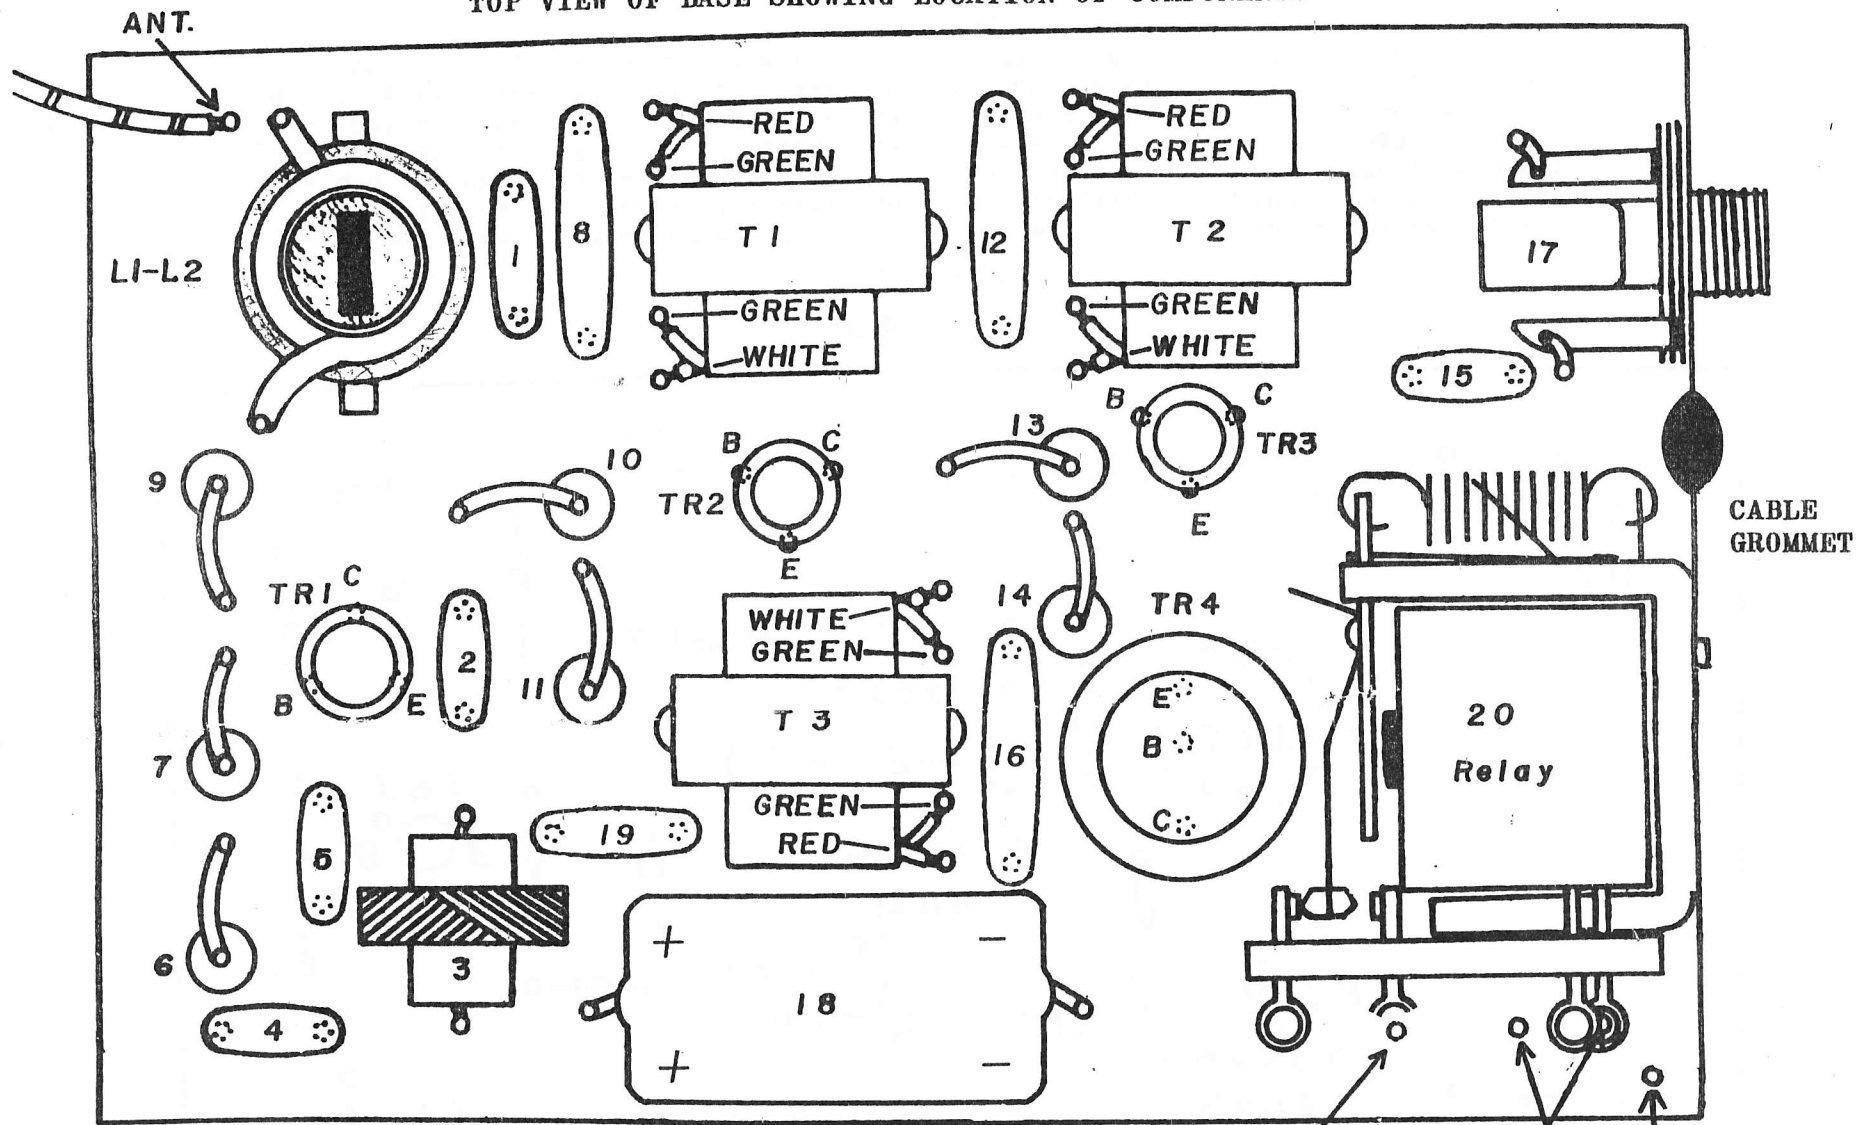

Fig. 2
Solder all the resistors and condensers into place on the base. The resistors are mounted on end. One lead is placed into the hole over which the resistor is located and the other lead is bent over and down to fit into the other connecting hole. Be sure to observe correct polarity when soldering the electrolytic into place. Connect the phone jack (17) to the base with about $\frac{1}{2}$ inch flexible leads. The relay (20) is mounted on its side as shown in Figure 2. Connect the red flexible wire to B+ hole and the black wire to B- hole. Connect the two foot length of white flexible wire to antenna hole on the base.
Continually changing the biasing resistors for temperature tests is a slow process so two 100K pots are substituted for R10 and R13. A third 100K pot is connected from the collector of TR3 to the junction of R13 and R14. (See Figure 2). This is marked Ra. Cardboard discs are fastened to the pots and pointers attached to the shafts. The pots are then calibrated in 10K steps with an ohmmeter. Tak-solder the pots into the circuit on stiff wire standoffs long enough to clear the other components. Start any adjustments with the pots set at mid-scale. Conduct the tests at the temperature you are concerned with. At average temperatures the settings are not critical. It is a good idea to also observe the receiver current at all times. This gives an indication that the receiver is responding properly. At the same time you will be able to adjust for the best current idle and current rise. Whenever the pots are changed, check the operation with and without signal and with range checks. Some settings give good operation but kill the range. A simple way of checking range is to ground the transmitter antenna with your hand. If the current rise drops off when you do this, try other pot settings. There should be little or no difference. It takes a little while for the "parts" in the receiver to adjust to a large change in temperature so don't rush any observations.